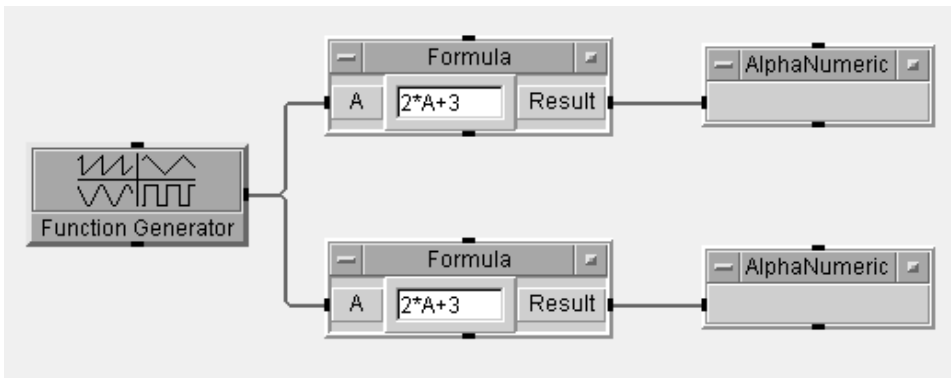

Figure 5.2. Wiring for Lab 5.2
2. Create the Function Generator, Formula, and AlphaNumeric objects as follows, arranging the objects as in Figure 5.2 for the remainder of this lab:
3. Arrange and connect the objects as shown in Figure 5.2.